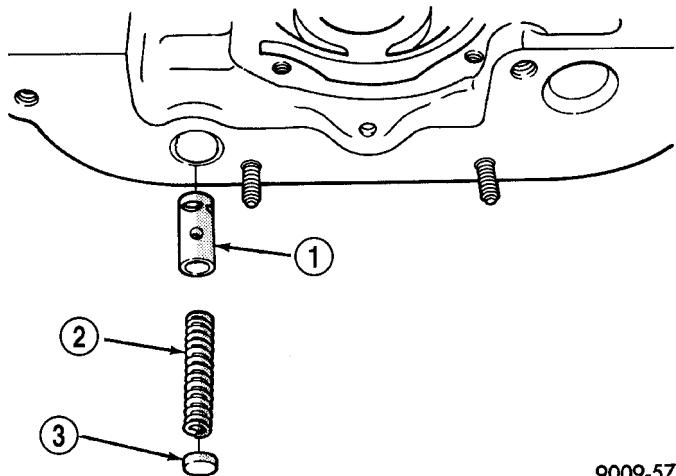

Fig. 113 Oil Pressure Relief Valve
(8) Remove oil pressure relief valve. (Refer to 9 - ENGINE/LUBRICATION/OIL PRESSURE RELIEF VALVE - REMOVAL)
(9) Inspect oil pressure relief valve and bore. Inspect for scoring, pitting and free valve operation in bore (Fig. 113). Small marks may be removed with 400-grit wet or dry sandpaper.
(10) The relief valve spring has a free length of approximately 49.5 mm (1.95 inches) it should test between 19.5 and 20.5 pounds when compressed to 34 mm (1-11/32 inches). Replace spring that fails to meet specifications.
(11) If oil pressure is low and pump is within specifications, inspect for worn engine bearings or other reasons for oil pressure loss.